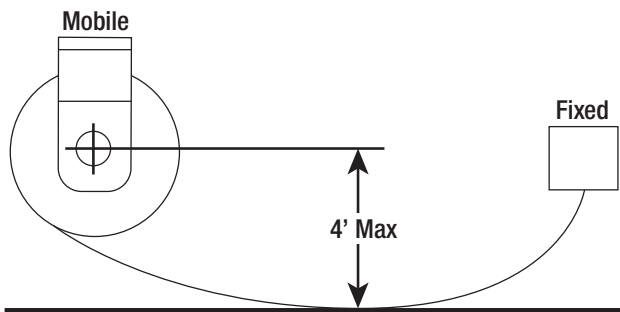

Figure 3-3
3.0.3.1 The reel is Mounted on the moving object and winds up or pays out the cable as the machine approaches or moves away from the fixed end. Retrieve applications can be elevated up to 4 feet from the cable support surface. **See Figure 3-3.**